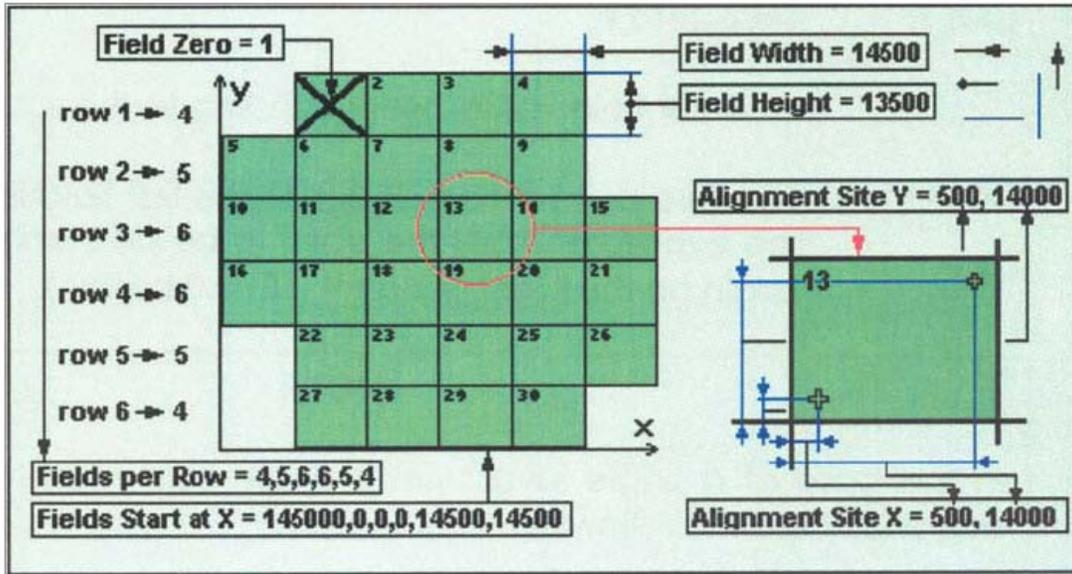

Figure 13. Exposure Map (Princeton University)
- Select Exposure Map located under Setup in the DWL 66 menu. The Exposure Map Design window will appear, showing the current settings. See figure, below. Edit exposure map design settings according to the rules listed below. The design rules are illustrated in Figure 13.
- Click on the Xoff field for Row 1 to enter a decimal offset of the pattern in micrometers from the local coordinate system datum (the field that contains the Field Zero, see Figure 13) as calculated by the exposure map. Repeat for the Yoff field. Repeat for all rows in the worksheet.